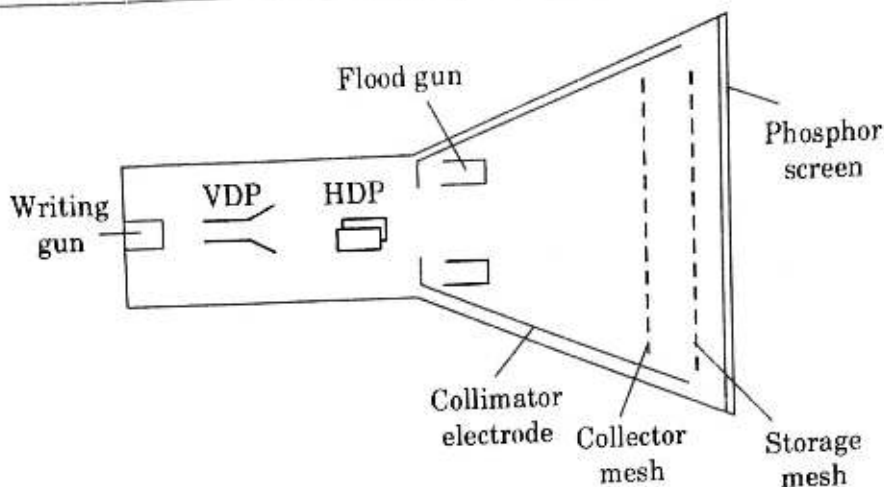

Fig. 4.4.1. Basic elements of storage mesh CRT.
2. A mesh storage CRT is shown in Fig. 4.4.1.